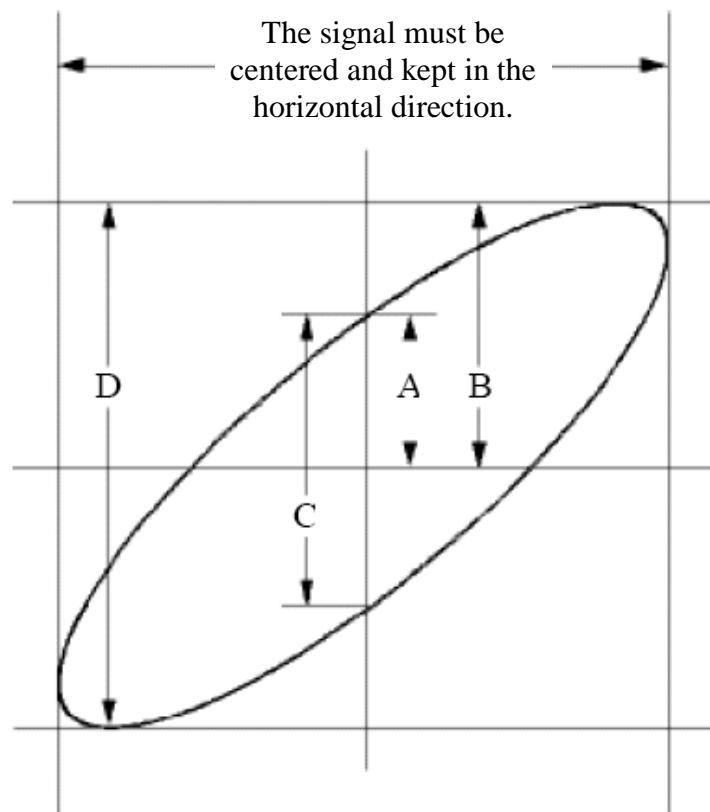

Figure 6-6 Lissajous Graph
- (7) Turn the **VOLTS/DIV** and **VERTICAL POSITION** knobs, optimizing the waveform.
- (8) With the elliptical oscillogram method adopted, observe and calculate the phase difference (see *Figure 6-6*).